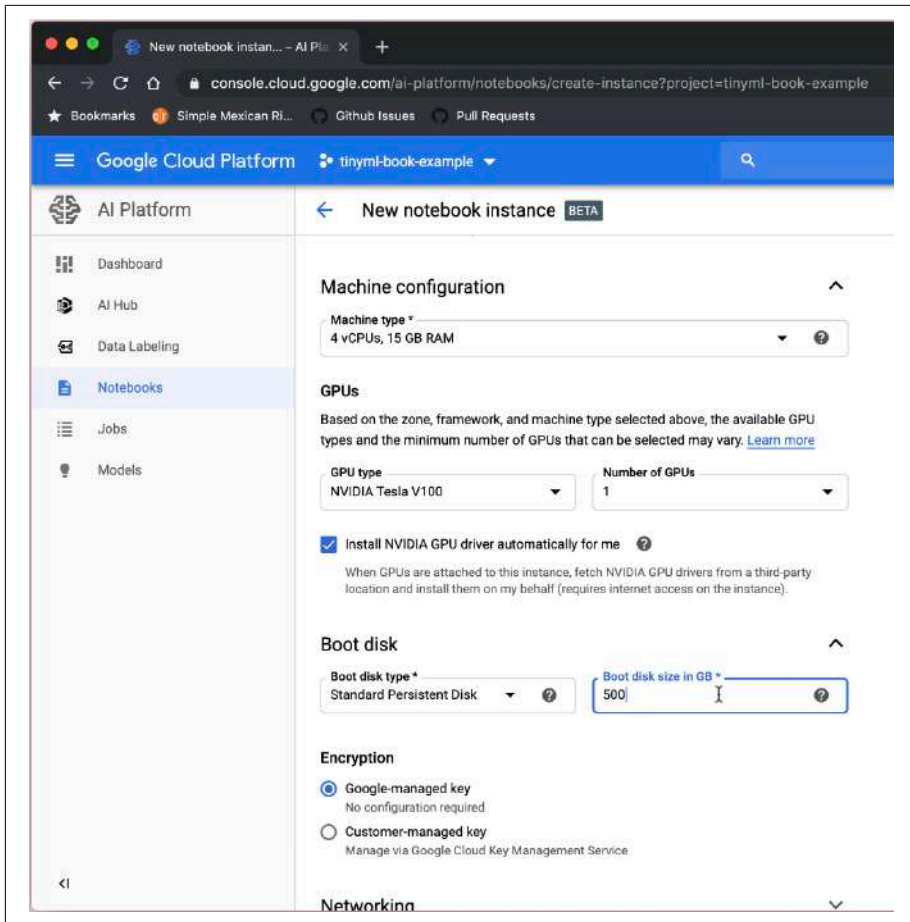

Figure 10-8. Increasing the boot disk size
11. Because you'll be downloading a dataset to this machine, we recommend making the boot disk a bit larger than the default 100 GB; maybe as big as 500 GB, as shown in Figure 10-8.